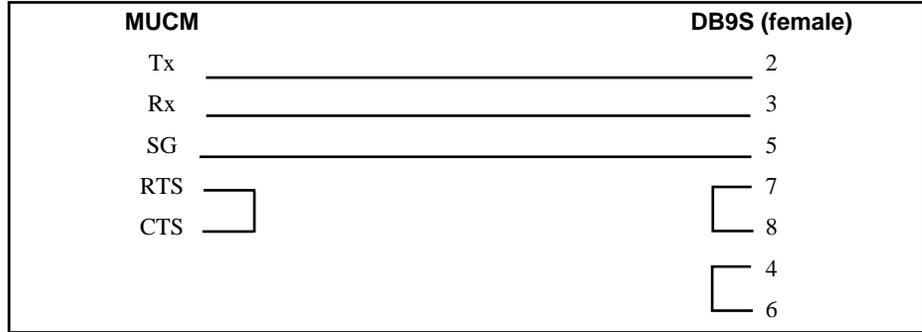

Figure 2-1 MUCM to PC RS-232 (MU1 Cable)
- MU1 cable (or equivalent can be built; see Figure 2-1) for connecting to a PC for configuration and loading of the application and module firmware.